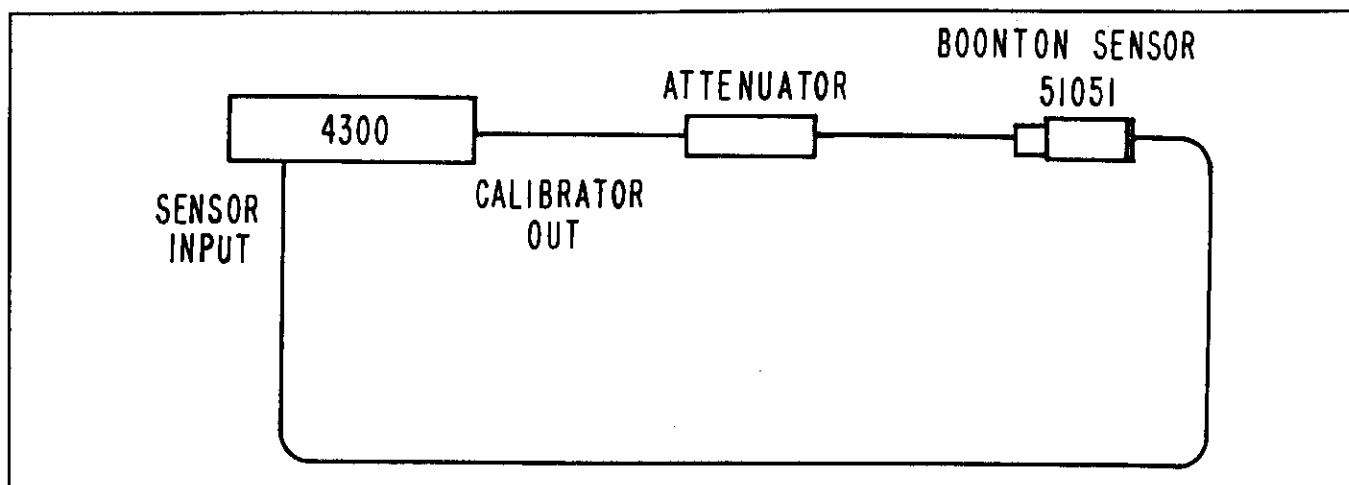

Figure 6-208. Wraparound Measurement
10. -50 dBm ADJUSTMENT. Connect the equipment as shown in Figure 6-208 and perform this calibration the same as the -60 dBm adjustment, using the 50 dB attenuator and setting the calibrator to -50 dBm. When SPECIAL 6 is executed, it will be necessary to skip over the -60 dBm range by pressing SHIFT (early software only). If ENTER is pressed instead, the -60 dBm calibration will be erased.